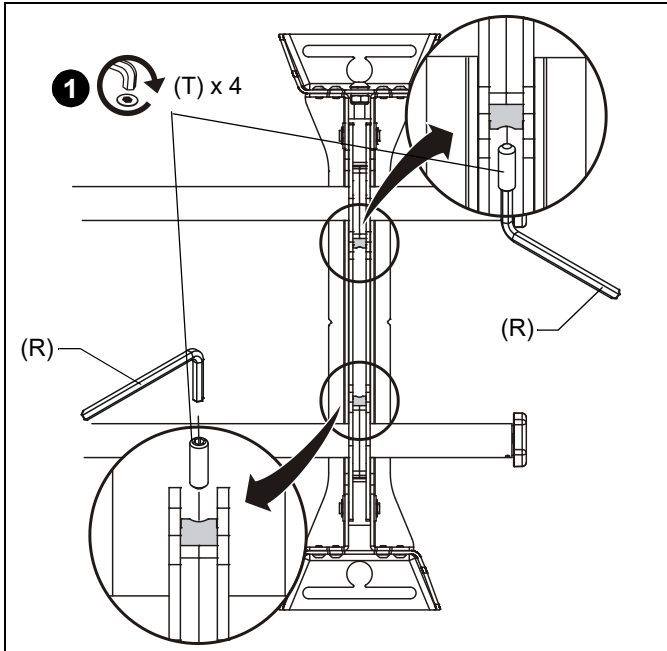

Figure 9
1. Lock rails into place using two 1/4-20 x 3/4" set screws (T) on mount upright (CC) and the 1/8" hex key (R). (See Figure 9)